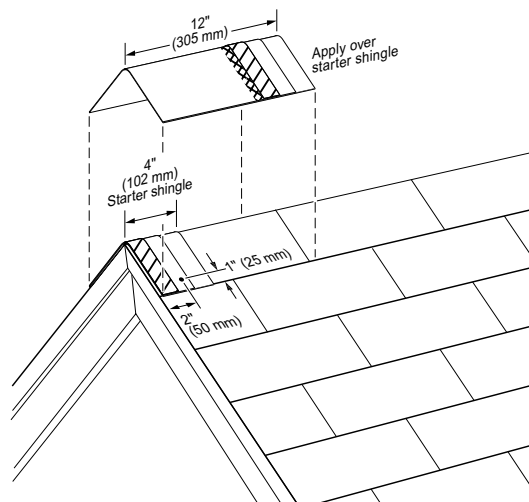
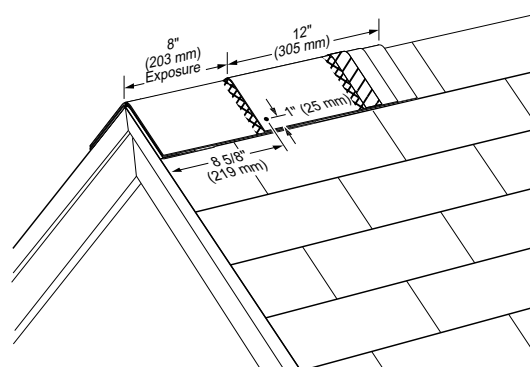

Figure 15-11: Apply a full cap shingle over the starter shingle.
Figure 15-12: Install cap shingles at an 8" exposure and fasten with one nail on each side as shown.
**IMPORTANT:** Use TWO nails to fasten each shingle. Fasteners must be minimum 1-3/4" (45 mm) long. For the starter shingle, place fastener 1" in from each side edge and about 2" up from the starter shingle's exposed butt edge, making sure fastener goes 3/4" into the deck or all the way through the deck. (see Figure 15-11). For each full Cedar Crest shingle, place fasteners 8-5/8" up from its exposed butt edge and 1" in from each side edge (see Figure 15-12).
Apply primary roofing up to hip or ridge on both sides of roof and trim flush. Ensure that the Cedar Crest shingles will adequately cover the top course of the shingles on both sides of the hip or ridge. Prepare a 4" "starter" shingle by cutting off the lower 8" color granule portion of one Cedar Crest shingle. Apply the 4" starter piece with raised overlay edge over the bottom corner of the hip or to either end of the ridge, overhanging the corner or end by approximately 1/2" and bending the starter shingle along its centerline to form into place (see Figure 15-11). Install a nail on each side about 2" up from the starter shingle's exposed butt edge and 1" in from each side edge of the shingle.
Then apply a full 12" x 12" piece over the starter, bending the shingle along its centerline and forming it into place over the hip or ridge, flush with the bottom and side edges of the starter shingle. Fasten with two nails minimum 1-3/4" long with one nail on each side of shingle 8-5/8" up from the butt edge and 1" in from each side edge (see Figure 15-12).